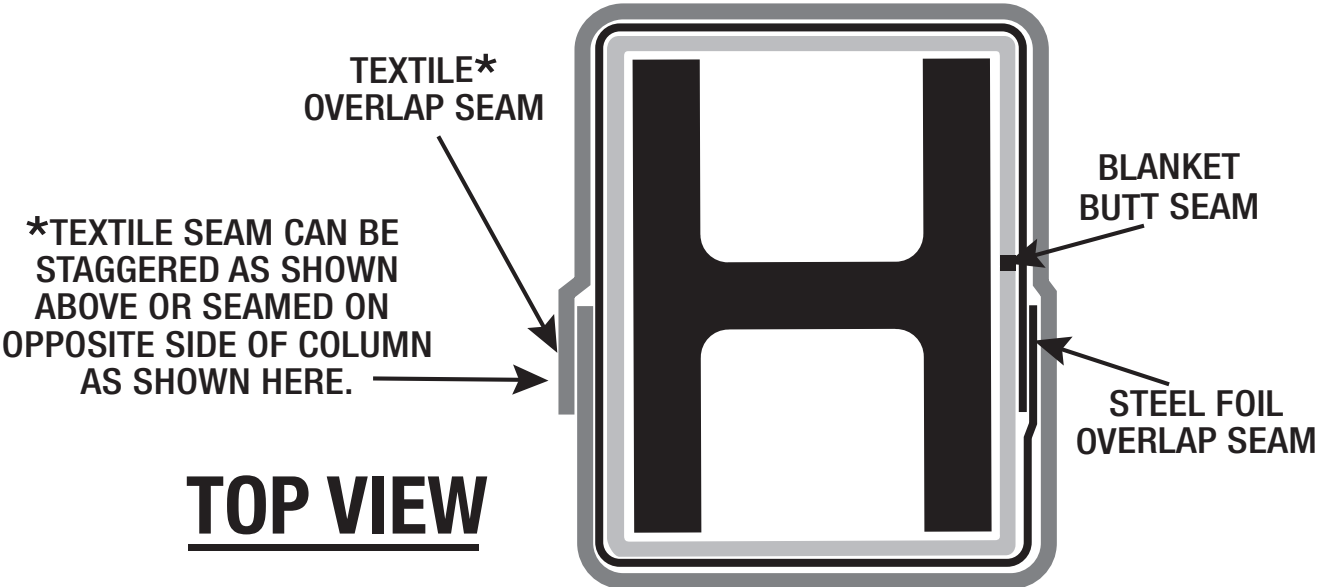

Figure 5.
Step 4. Illustrated in Figure 5: